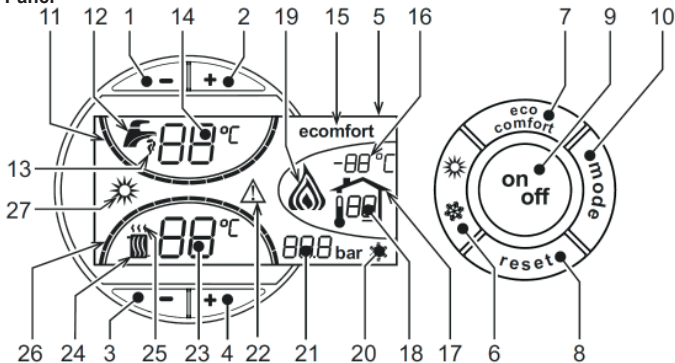
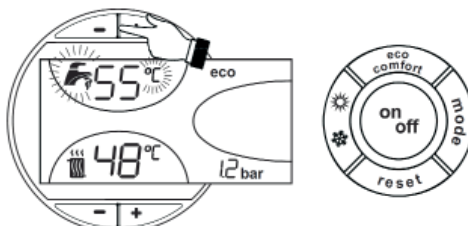
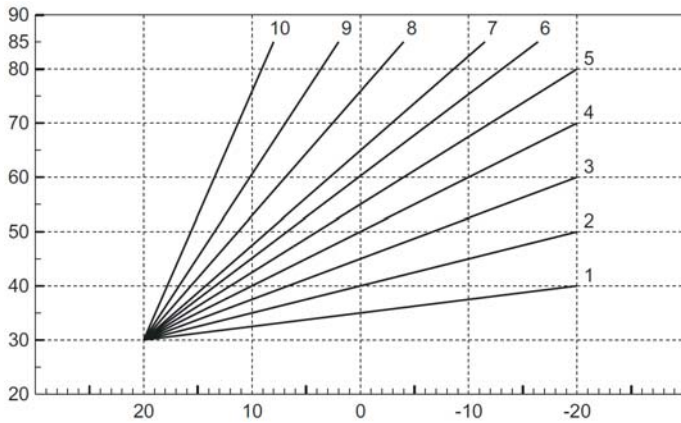

fig.1 - Control panel
fig.11
fig.14 - Compensation curves
A heating demand (generated by the Room Thermostat or Remote Timer Control) is indicated by flashing of the hot air above the radiator (details 24 and 25 - fig.1).
The heating graduation marks (detail 26 - fig.1) light up as the heating sensor temperature reaches the set value.
A DHW demand (generated by drawing domestic hot water) is indicated by flashing of the hot water under the tap (details 12 and 13 - fig.1).
The DHW graduation marks (detail 11 - fig.1) light up as the DHW sensor temperature reaches the set value.
The operation of the accumulator (heating and maintenance in temperature) can be deactivated by the user. In such a case, there is no sanitary hot water supply. When the accumulator is activated (default option), the COMFORT symbol appears on the display (15 - fig.1); if it is deactivated, the ECO symbol (15-fig.1) is displayed. To deactivate the heater and set the ECO mode, press the eco / comfort key (7- fig.1). To return to COMFORT mode, press the eco / comfort key again (7- fig.1)
Press the on/off button (detail 9 - fig.1) for 1 second.
The antifreeze system remains activated. To relight the boiler, press the on/off button (detail 9 - fig.1) again for 1 second.
Press the summer/winter button (detail 6 - fig.1) for 1 second.
The display activates the Summer symbol (detail 27 - fig.1): the boiler will only deliver domestic hot water. The antifreeze system remains activated.
To deactivate the Summer mode, press the summer/winter button (part. 6 - fig.1) again for 1 second.
Use the heating buttons (details 3 and 4 - fig.1) to adjust the temperature from a min. of 30°C to a max. of 80°C.
Use the DHW buttons -/+ (details 1 and 2 - fig.1) to adjust the temperature from a min. of 10°C to a max. of 65°C.
When the optional external probe is installed the control panel display (detail 5 - fig.1) shows the actual outside temperature read by the probe. The boiler control system operates with "Sliding Temperature". In this mode, the temperature of the heating system is adjusted according to the outside weather conditions, in order to ensure high comfort and energy saving throughout the year. In particular, as the outside temperature increases, the system delivery temperature is decreased according to a specific "compensation curve".
With Sliding Temperature adjustment, the temperature set with the heating buttons -/+ (details 3 and 4 - fig.1) becomes the maximum system delivery temperature. It is advisable to set a maximum value to allow system adjustment throughout its useful operating range.
Press the mode button (detail 10 - fig.1) once to display the actual compensation curve (fig.11), which can be modified with the DHW buttons (details 1 and 2 - fig.1).
Press the heating buttons (details 3 and 4 - fig.1) to access parallel curve offset (fig.14), modifiable with the DHW buttons (details 1 and 2 - fig.1).
Press the **mode** button (detail 10 - fig.1) again to exit parallel curve adjustment mode.